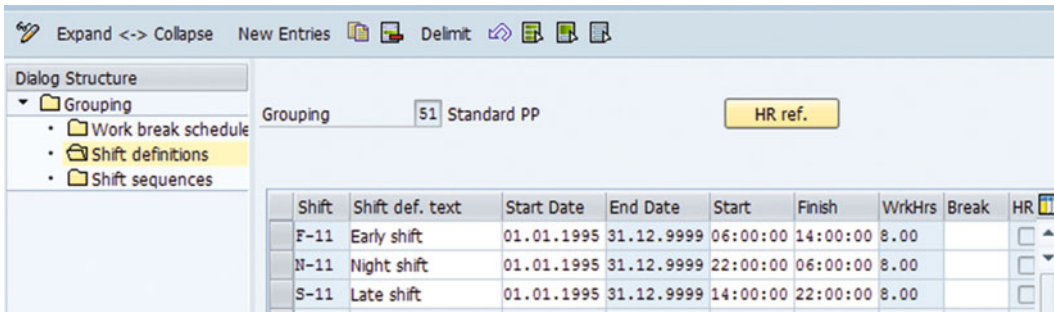

Figure 3-3. Configure shift definitions
3. Define a unique shift ID, description, start date time, end date time, and break. (Refer to Figure 3-3.)